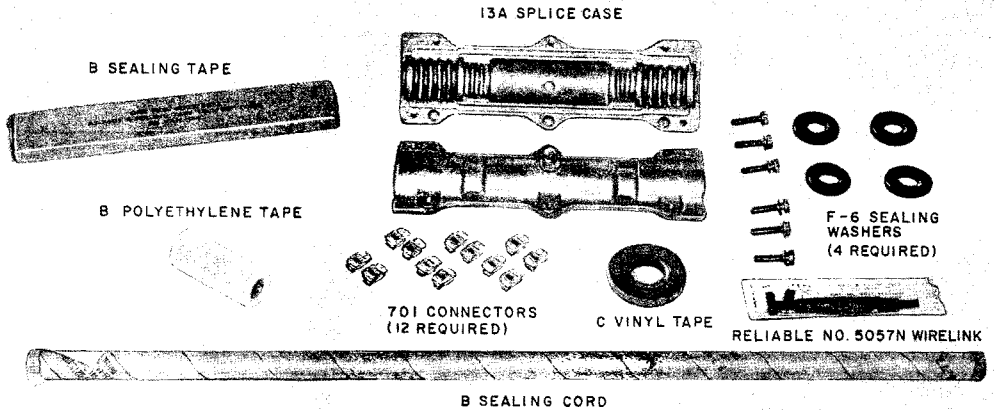

Fig. 20—Material Required for Splicing Multiple Pair ASW
7.01 Multiple pair ASW may be spliced before placing, using the material listed in Table B and shown in Fig. 20.